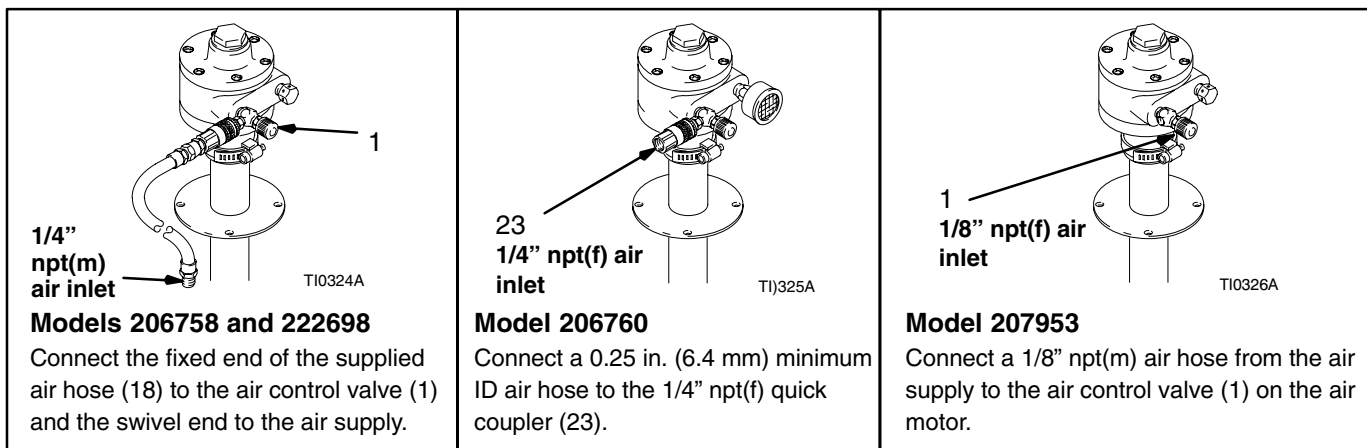

Fig. 2
**NOTE:** Refer to the **Dimensional Drawing** and **Mounting Hole Layout** on page 12. See Fig. 2 for air hose connections.